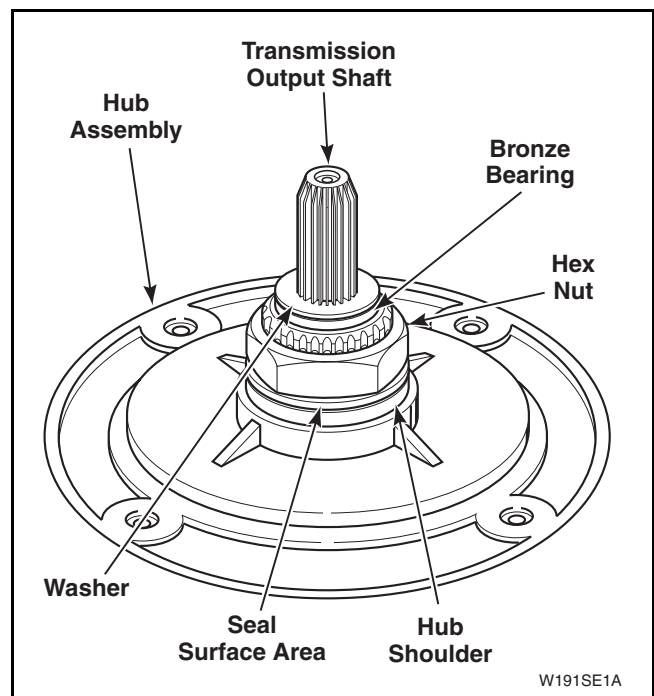

Figure 36
- j. Remove large hex nut using a No. 306P4 Hex Wrench. Refer to *Figure 36*.